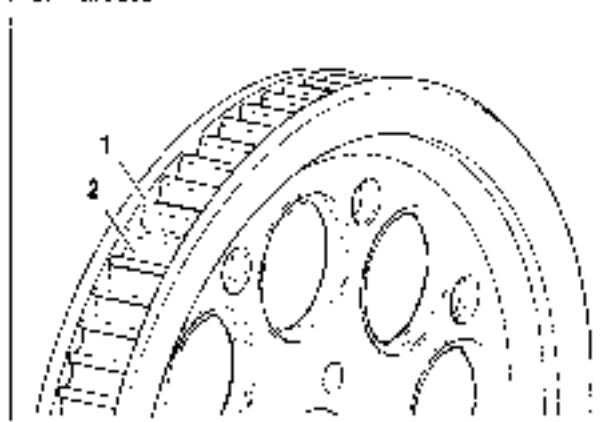

Figure 1-39. Rear Sprocket
- See Figure 1-39. Inspect each tooth (1) of rear sprocket for:
- To check if chrome plating has worn off, drag a scribe or sharp knife point across the bottom of a groove (2) (between two teeth) with medium pressure.